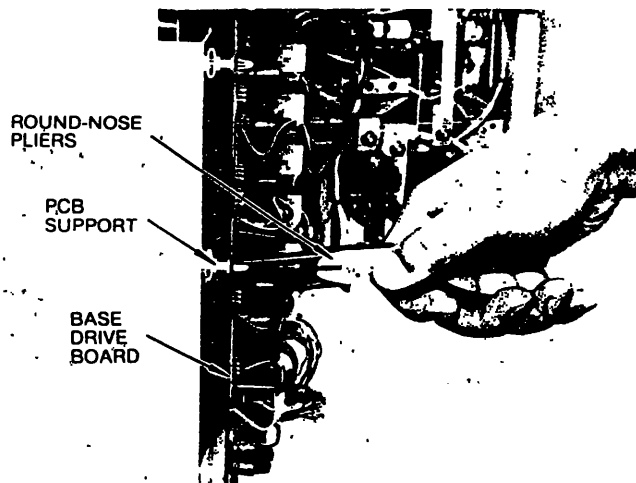

Fig. 9.4 Holding Head of PCB Support with Round-nose Pliers
3. Hold each head of the six PCB supports with round-nose pliers and remove the supports from the guide holes in the PCB. (Fig. 9.4)